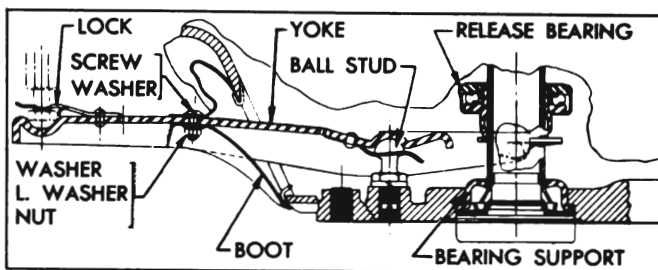

Figure 4-5—Clutch Release Yoke and Boot
4. If adjustment is necessary, loosen lock nut and turn adjusting nut on clutch release rod as required to secure  $\frac{3}{4}$ " lash, then tighten lock nut securely. See figure 4-5.
2. Disconnect rod from clutch release yoke, unhook boot from opening in flywheel upper housing, and pull yoke outward to disengage it from ball stud. See figure 4-5.
2. Disconnect release rod from release yoke and remove yoke boot and release rod nut lock which are bolted to yoke. See figure 4-5.
9. Install boot and release rod nut lock on yoke (fig. 4-5), attach release rod to yoke, then adjust for clutch pedal lash of  $\frac{3}{4}$ " (par. 4-4).